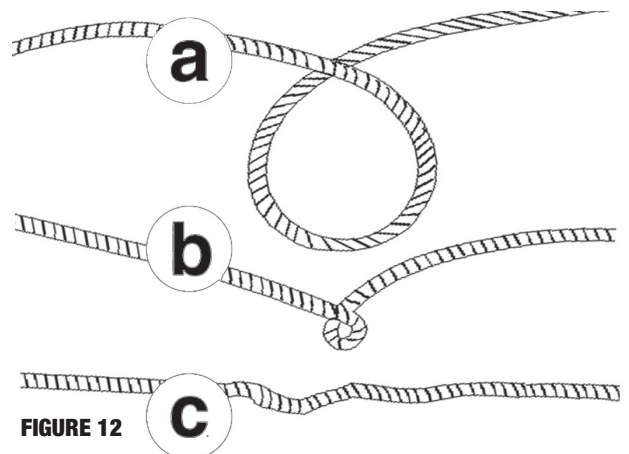

FIGURE 12
5. PREVENT KINKS IN WIRE ROPE BEFORE THEY OCCUR. (FIGURE 12)